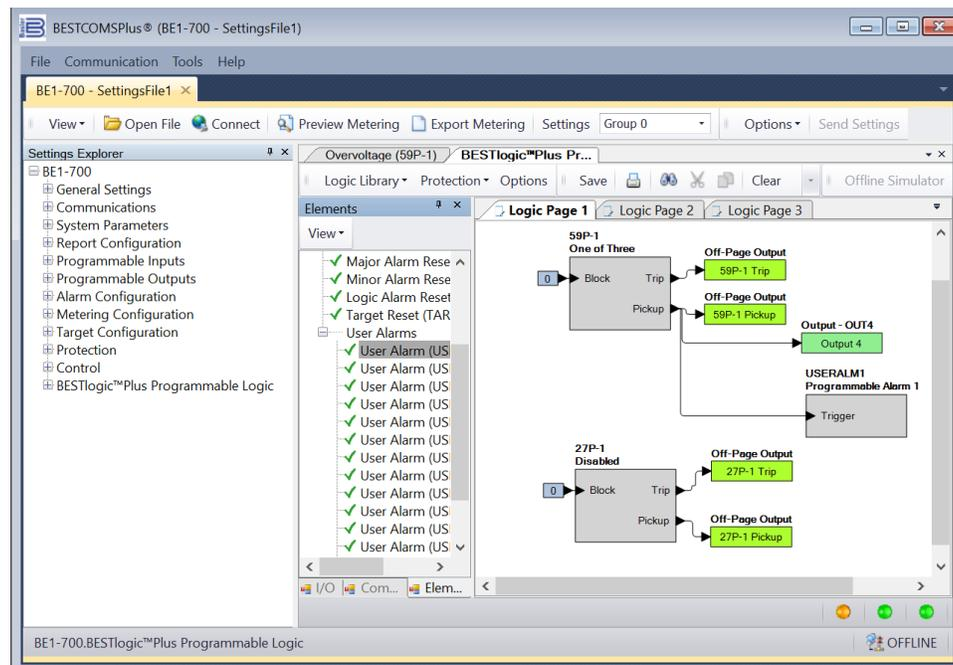

Figure 2-13. BESTlogicPlus Programming User Alarm 1
Step 11: In this example step, the Pickup output of the 59P-1 element is connected to User Alarm 1. When the Pickup output of the 59P-1 element is true, the label of the user alarm is displayed on the Alarms screen on the front-panel display and in the fault report and/or sequence of events report. The label is named in Step 13. Click the Logic Page 1 tab and then click the Elements tab at the bottom. Locate the User Alarm 1 element. Click and drag USERALM1 over to the logic diagram. Click on the Pickup output of the 59P-1 element and drag to the input of USERALM1 to make a connection. Refer to Figure 2-13.